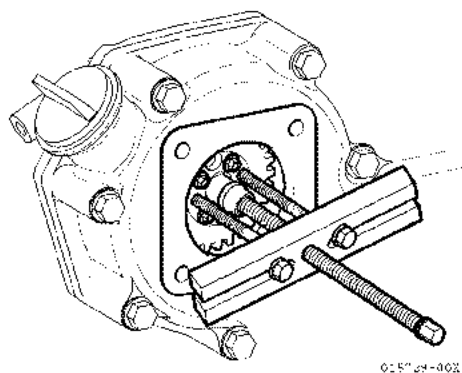

Figure 6-21
8. Hold crankshaft to prevent it from turning and loosen the nut for fuel injection pump drive gear / flange assembly with an extraction tool (Figure 6-21). **NOTICE:** Do not disassemble pump flange, fuel pump drive gear and flange bolt.